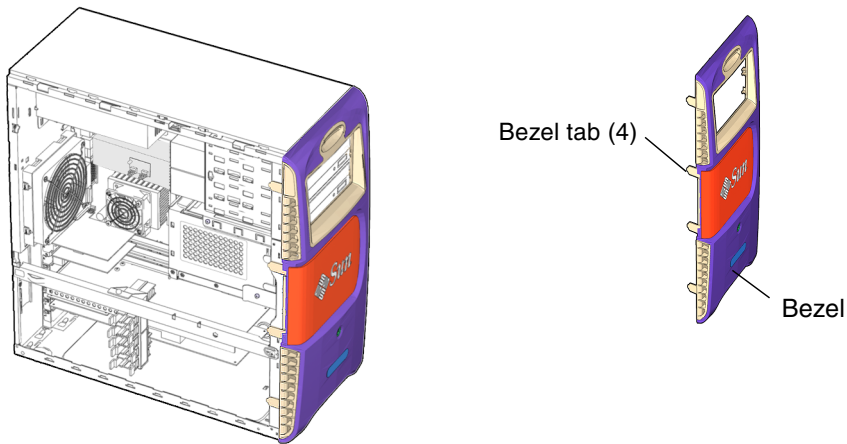

FIGURE 10-10 Bezel Location and Identification
2. Locate the bezel (FIGURE 10-10).